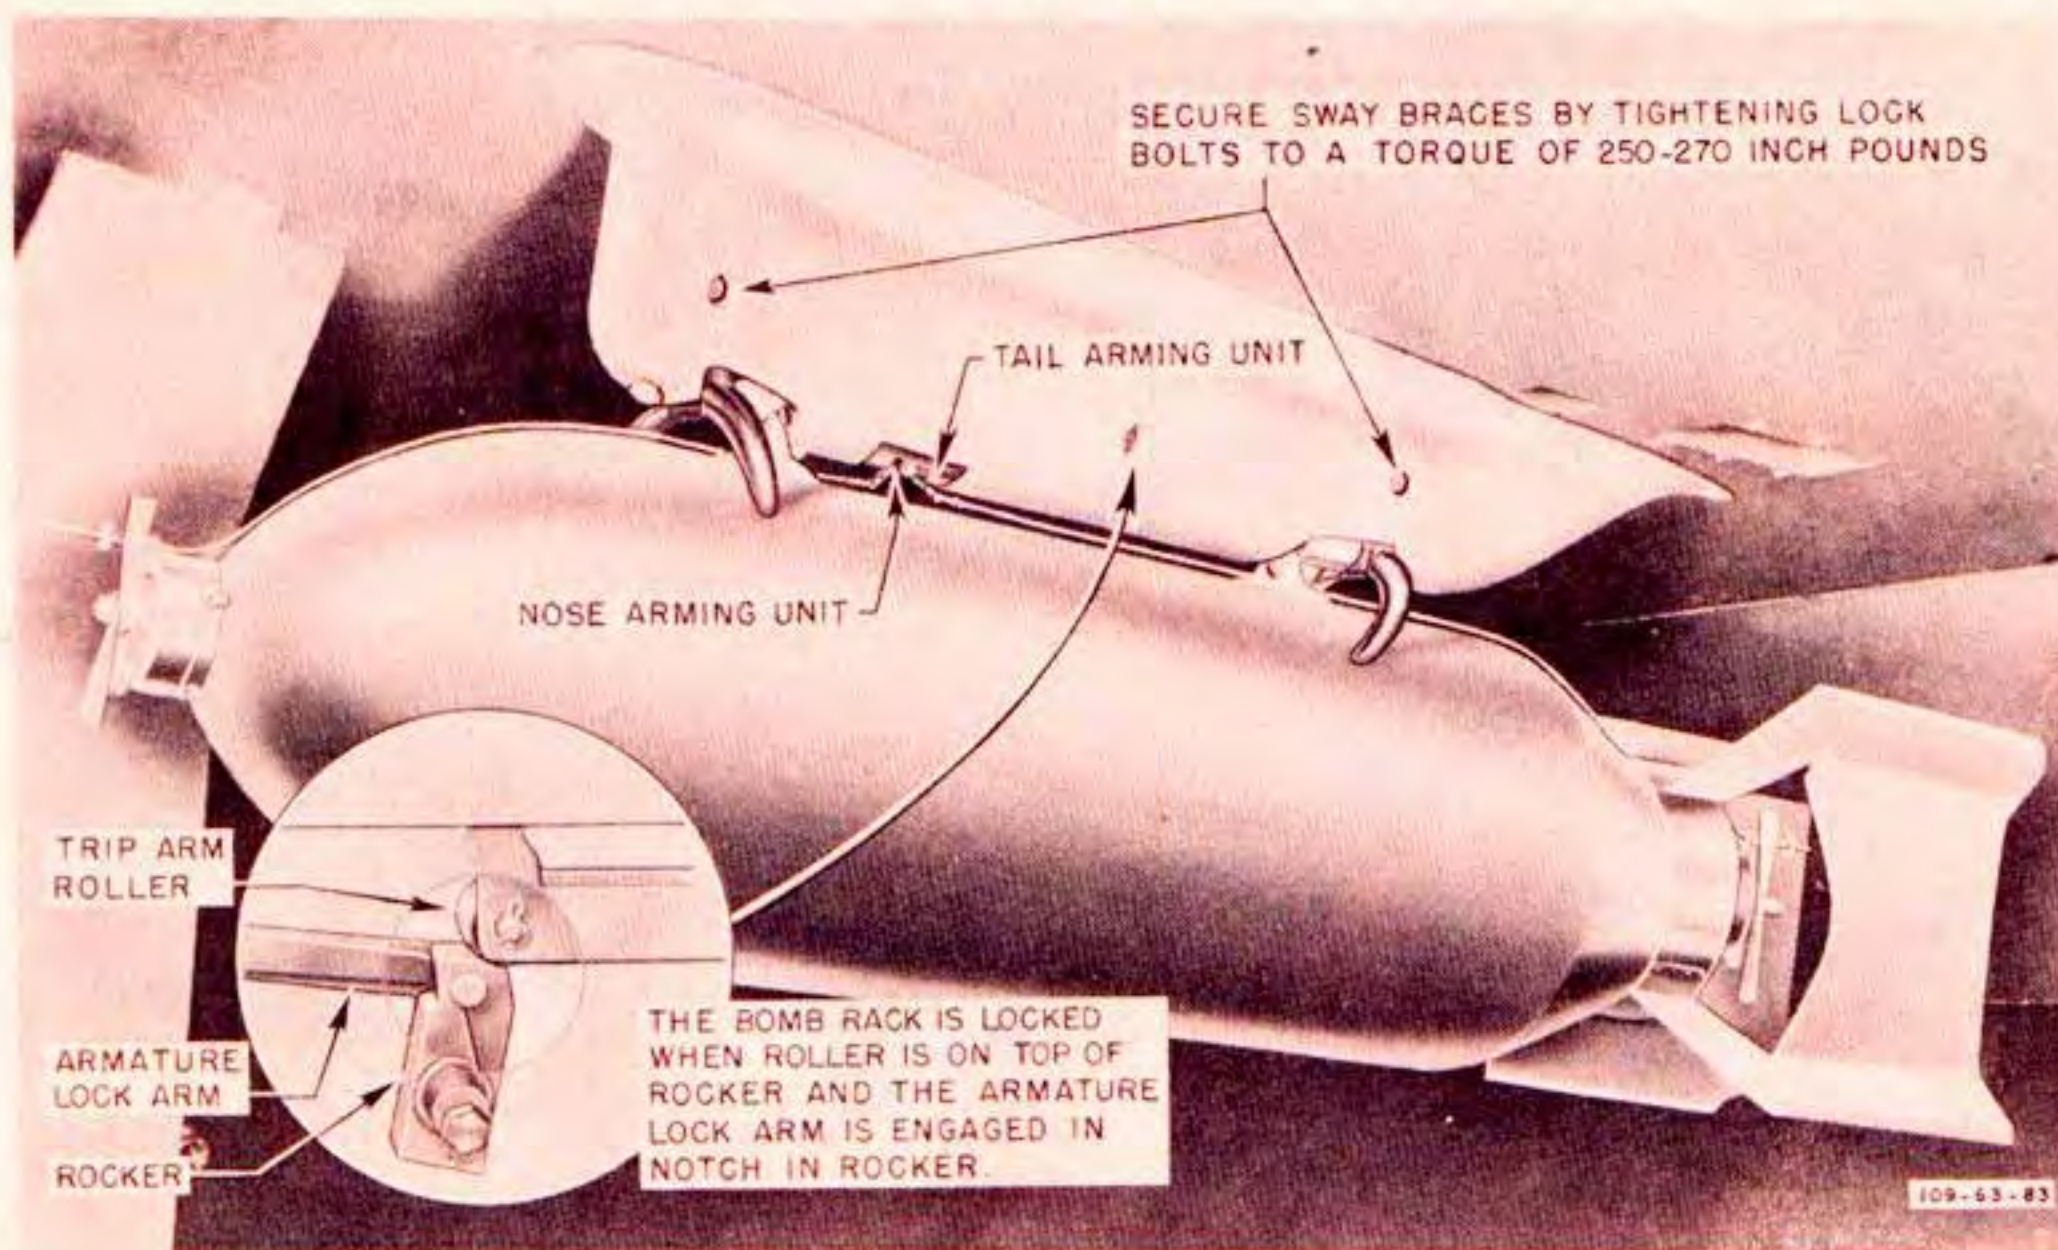
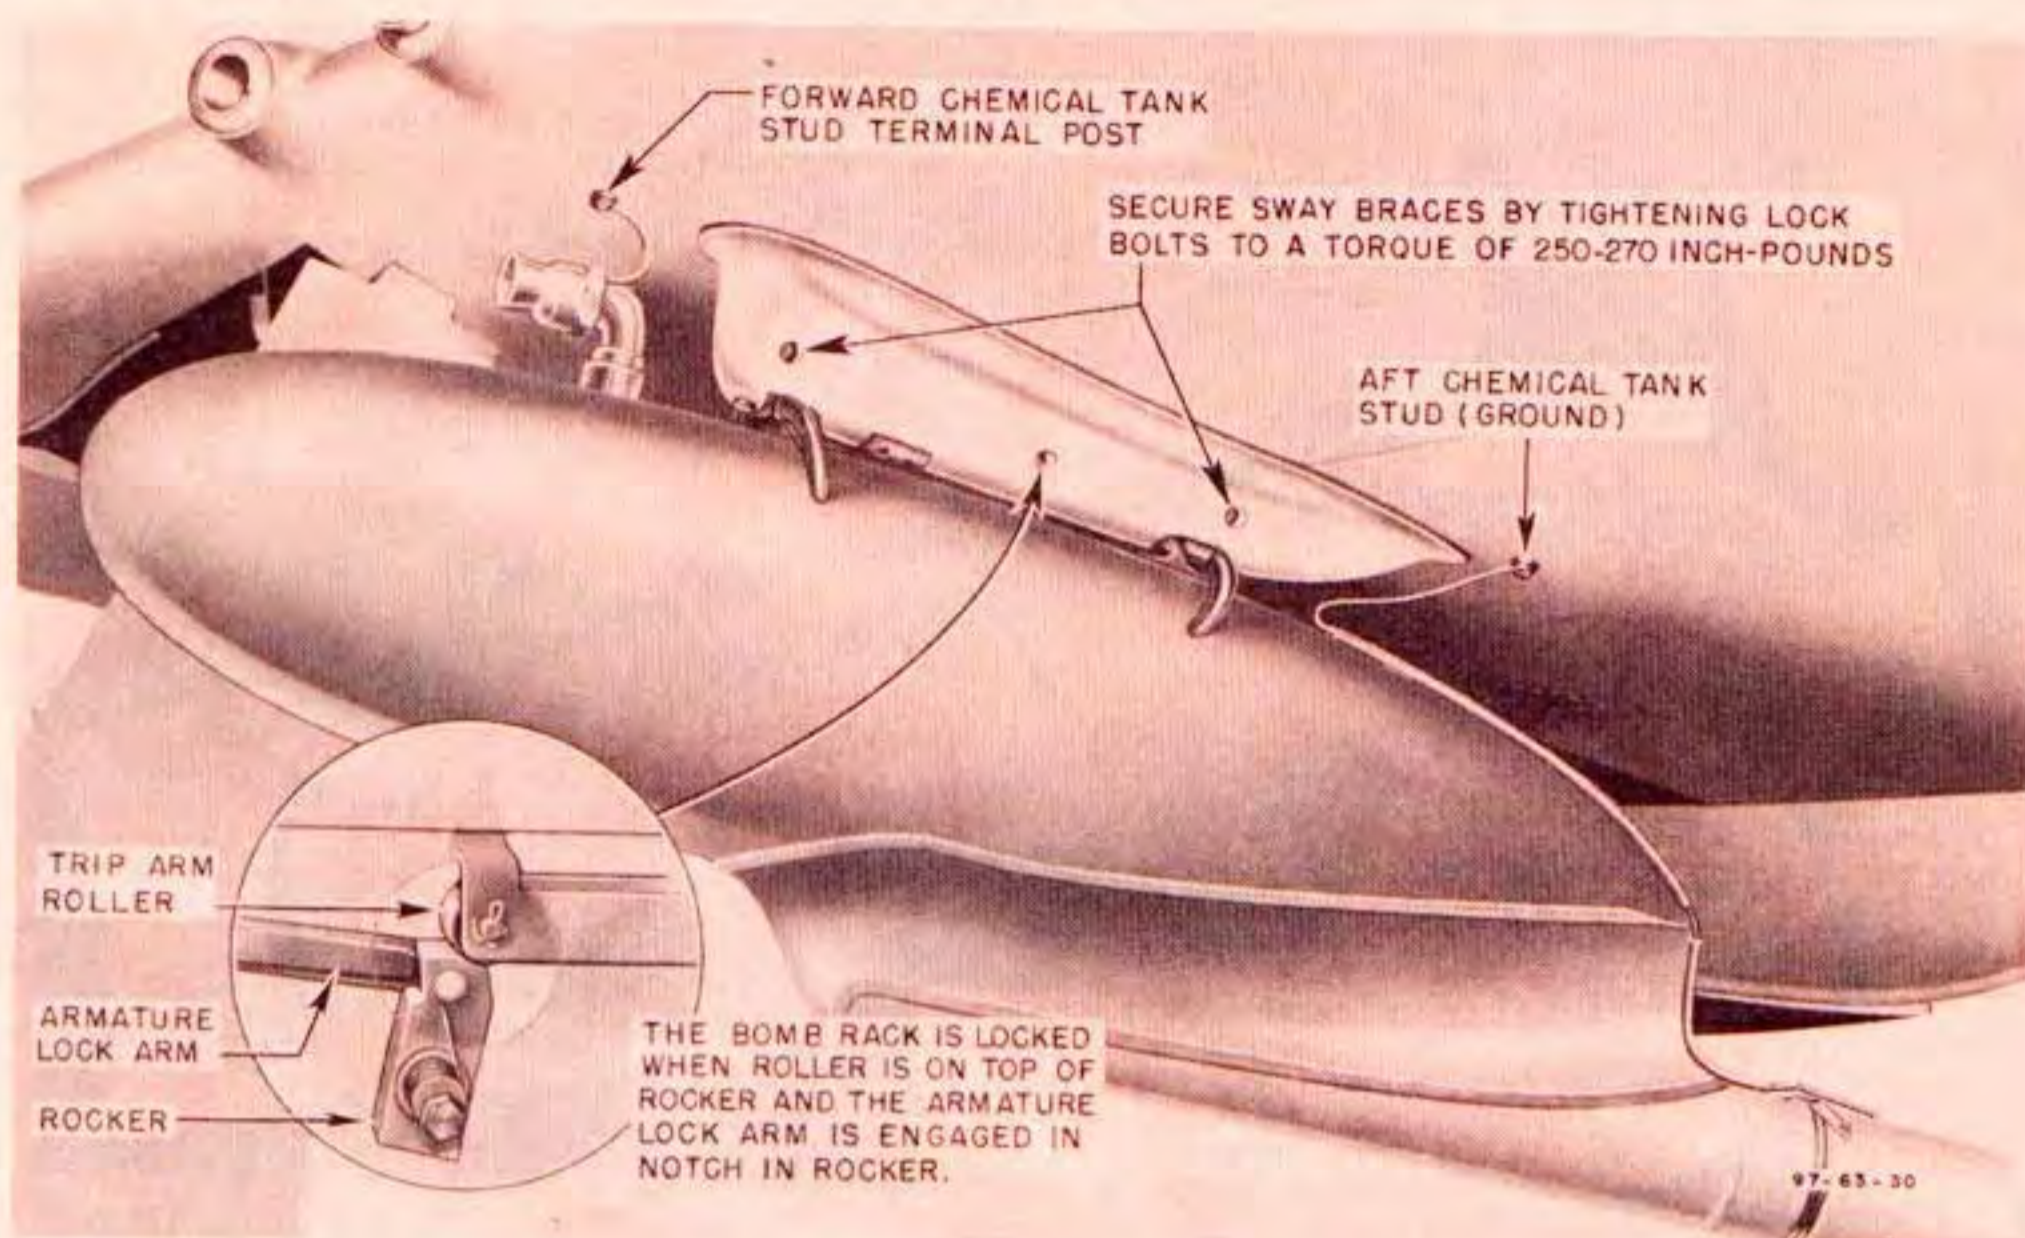

Figure 466—Bomb Installed
Figure 467—Chemical Tank Installed
c. **LOADING ALL TYPES OF BOMBS.** (See figure 466.)—Because of their small diameter, 100-pound bombs require the installation of two AN3-13 bolts in the front sway brace.
(1) Open bomb support hooks.
(2) Place safe-selector switch on "SAFE," arming switches "OFF."
(3) Install sway braces up as far as possible on each rack to allow space for loading. Make sure sway braces are installed with arms toward the center of rack.
(4) Lift the bomb until both support lugs have entered the two slots in the rack, and then bump the lugs against the upper portion of the bomb rack support hooks to snap the hooks shut and lock the rack.
(5) Inspect each bomb rack through inspection window in fairing to make sure the bomb rack is locked. (See detail on figure 466.)
(6) Extend the sway braces until the bomb is held tightly against the sway pads; tighten each sway brace lock bolt (torque bolt from 250 to 270 inch-pounds).
(7) Install nose arming wire in nose arming (forward) unit; then connect the other end of the wire to the nose fuse of the bomb.
(8) Install the tail arming wire in the tail arming (aft) unit; then connect the other end of the wire to the tail fuse of the bomb.
d. **LOADING CHEMICAL TANKS.**—A chemical tank may be installed on each bomb rack. Several men are required to lift the tank into place, as each tank weighs 588 pounds. (See figure 467.) Before loading the tanks, make the preloading inspection outlined in paragraph b.
(3) Install sway braces up as far as possible on each rack to allow ample space for loading. Make sure braces are installed with arms toward center of rack.
(4) Lift the chemical tank until its support lugs have entered the two slots in the rack, and then bump the lugs against the upper portion of the bomb rack support hooks to snap the hooks shut and lock the rack.
(5) Inspect the bomb racks to make sure the bomb racks are locked. (See detail on figure 467.)
(6) Extend the sway braces until the chemical tank is held tightly against the sway pads; tighten each sway brace lock bolt (torque bolt from 250 to 270 inch-pounds).
(7) Insert front chemical tank igniter wire on insulated chemical tank post on the wing skin ahead of the rack. Pull wire snug and tighten the screw.
(8) Attach rear chemical tank igniter wire on the ground post on the wing skin. Pull wire snug and tighten the screw.